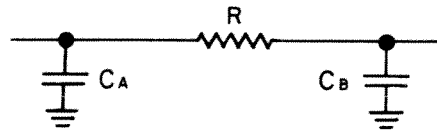

Fig. 2-2. Example
5. A good capacitor connected in parallel with an open one may cause an indication "not open". Therefore, all indications should be interpreted on the basis of circuit examination. For example, in Figure 2-2, if R is less than 35 ohms and C_A is open, but C_B is large, the indication may be "not open" while checking C_A because small R does not isolate the capacitors sufficiently. In the same case, but with R larger than 35 ohms, the indication will be correct.